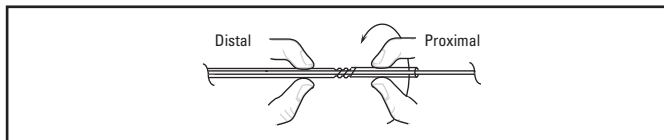

Figure 2. Unlock via Counter-Clockwise Rotation
- To unlock the Twist-Lock mechanism on the introducer sheath, gently pinch the introducer sheath on both sides of the Twist-Lock mechanism and rotate proximal side counter-clockwise (Figure 2). This releases the delivery wire/coil assembly to move freely within the introducer sheath.